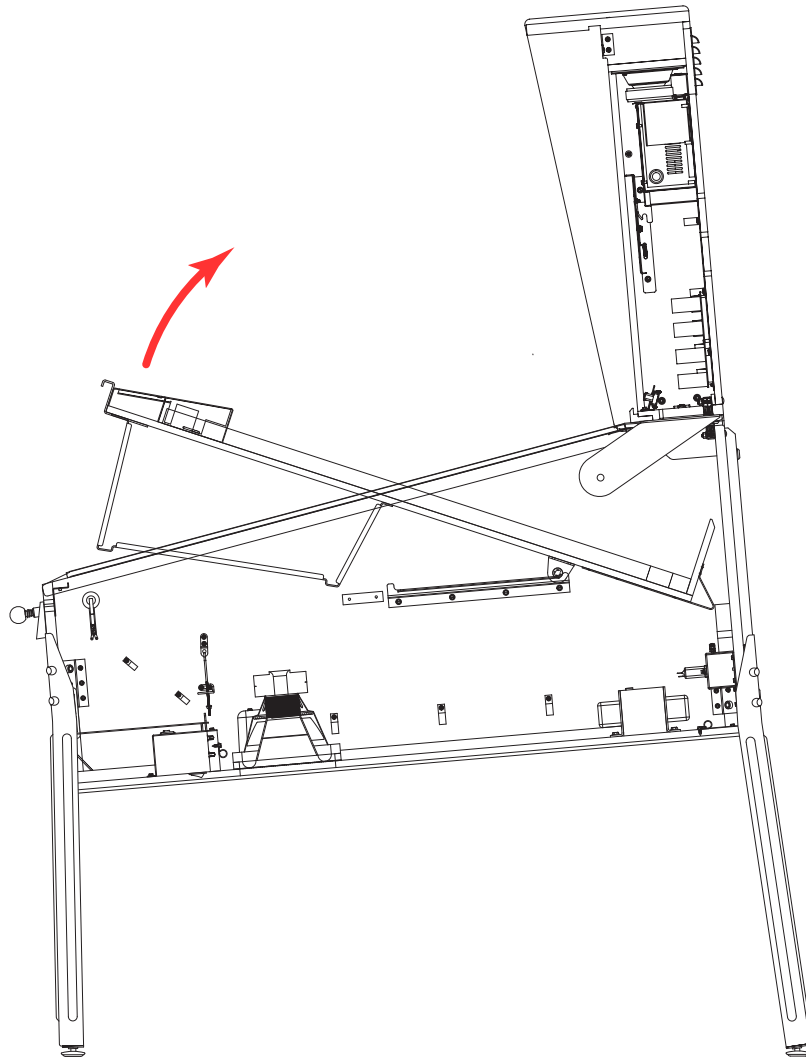
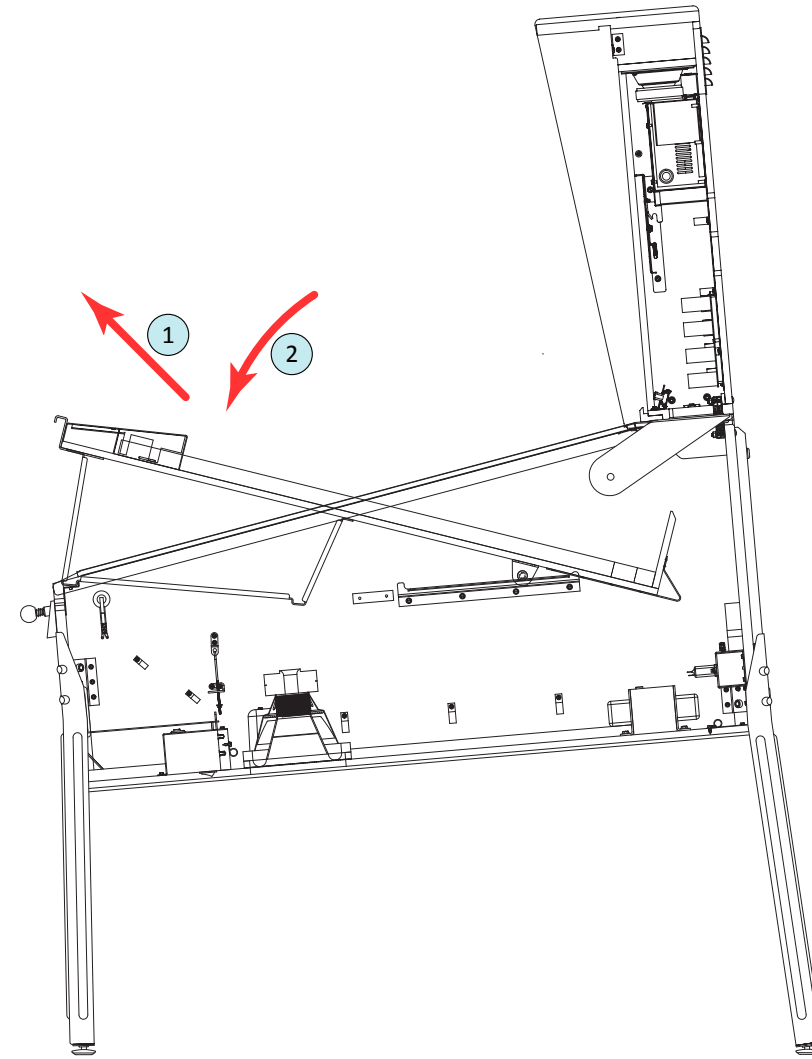

Figure A11. Swing the playfield upward.
Figure A12. Moving the playfield to position 2.
13) Grasp the playfield under its bottom arch and swing it upward until the playfield support brackets underneath are fully visible (figure A11). Move the playfield to position 2 (figure A12). Pull it upward and outward until the first pair of feet reach the top of the lockdown bar receiver; then lower the playfield, resting the feet in the steel channel.